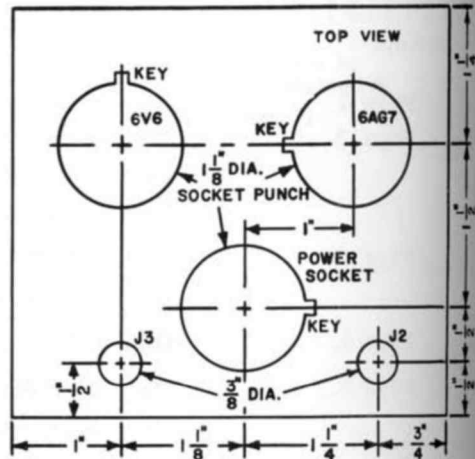

FIG. 5 DRILLING DIAGRAM FOR THE TUBE CHASSIS.
8. The three drawings on pages 4 and 5 of this issue, Figs. 5, 7 and 8, may not be read clearly because of their being pinched in the binding of this book. These diagrams are repeated on the two previous pages.